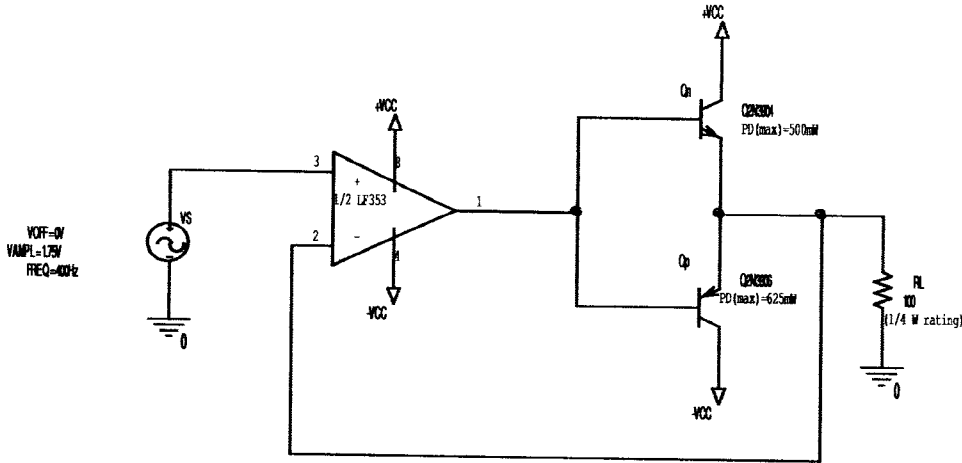

Figure 2, Class B Push-Pull Amplifier with negative feedback
- Build the circuit shown in Figure 2 using an LF353 op amp. Repeat the experiment of part 1 and discuss the reduction in cross-over distortion.